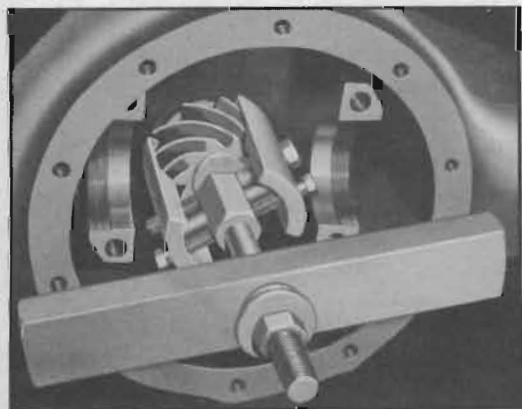

Figure 5-8—Pinion Puller
4. If gear ratio is 4.1 to 1, the pinion and propeller shaft may be pulled by means of the puller shown in figure 5-8. This puller will not fit over the pinions of the 3.6 and 3.9 gear sets; therefore, in those jobs the parts must be removed by force applied to front end of propeller shaft, preferably by pressing with a jack to avoid the possibility of damaging shaft or bearings.